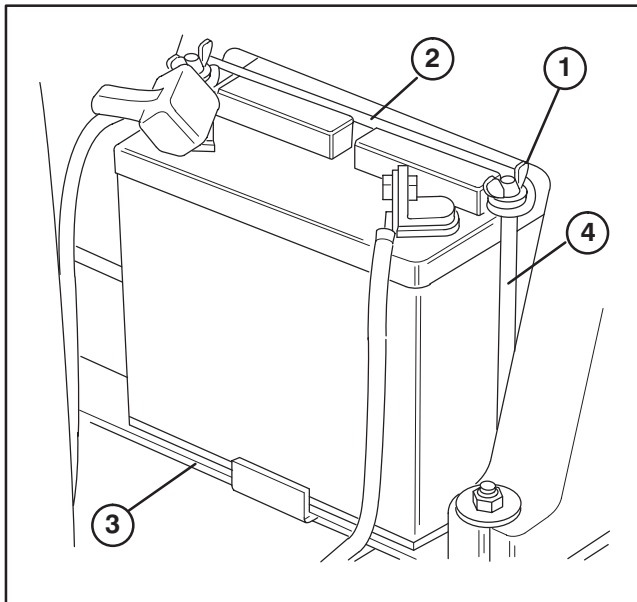

Figure 4
2. Remove wing nuts and washers securing battery clamp to battery bolts and remove battery from machine. Remove filler caps from battery and slowly fill each cell until electrolyte is just above the plates (Fig. 4).
6. Mount battery on battery pad with terminal posts toward rear of machine (Fig. 4).
7. Secure battery with to battery bolts with clamp, washers and wing nuts (Fig. 4).
8. Install the positive cable (rubber boot over end) to the positive (+) terminal and the negative cable (black) to the negative (–) terminal of the battery and secure with carriage bolts, lockwashers and nuts. Slide the rubber boot over the positive terminal to prevent possible short-out from occurring (Fig.4).